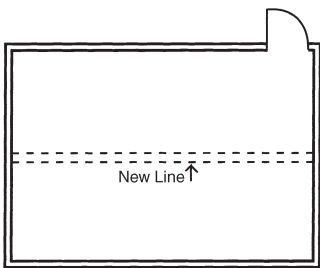

Fig. 34 - Adjust center line
- It may be necessary to adjust the center line to avoid small border pieces at side walls. To do this, measure the distance between the center line and the side wall. Divide the measurement by the plank width (4 1/2"). If the remainder is less than half a plank width, adjust the center line one half the width of a plank in either direction (Fig. 34).